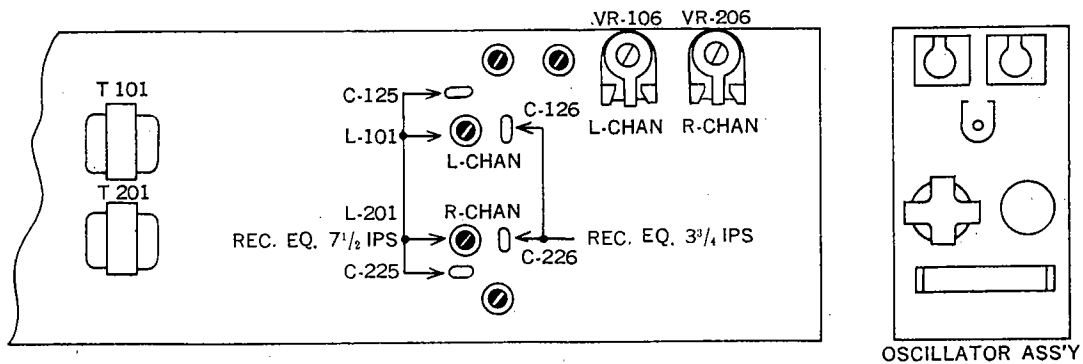

FIG. 9-2 ADJUSTABLE PARTS LOCATION (AR-60 BOTTOM VIEW)
7. While recording a 500 Hz tone, adjust VR-106 (Fig. 9-2) for maximum peak on the VTVM. Then turn VR-106 clockwise until the meter reading decreases by 0.5 to 1 db from the maximum level.
8. Perform the same steps on the right channel adjusting VR-206 (Fig. 9-2).
14. If adjustment is required, adjust L-101 (Fig. 9-2) left channel and L-201 (Fig. 9-2) right channel. These coils are in use for both tape speeds and should be adjusted at 7 $\frac{1}{2}$  ips. If the coil adjustments do not help, then change the value of C-125 (Fig. 9-2) left channel and C-225 (Fig. 9-2) right channel for 7 $\frac{1}{2}$  ips and C-126 (Fig. 9-2) left channel and C-226 (Fig. 9-2) right channel for 3 $\frac{3}{4}$  ips. Adjust this circuit for most even VTVM readings, trying to bring them as close as possible to the 500 Hz reference reading.